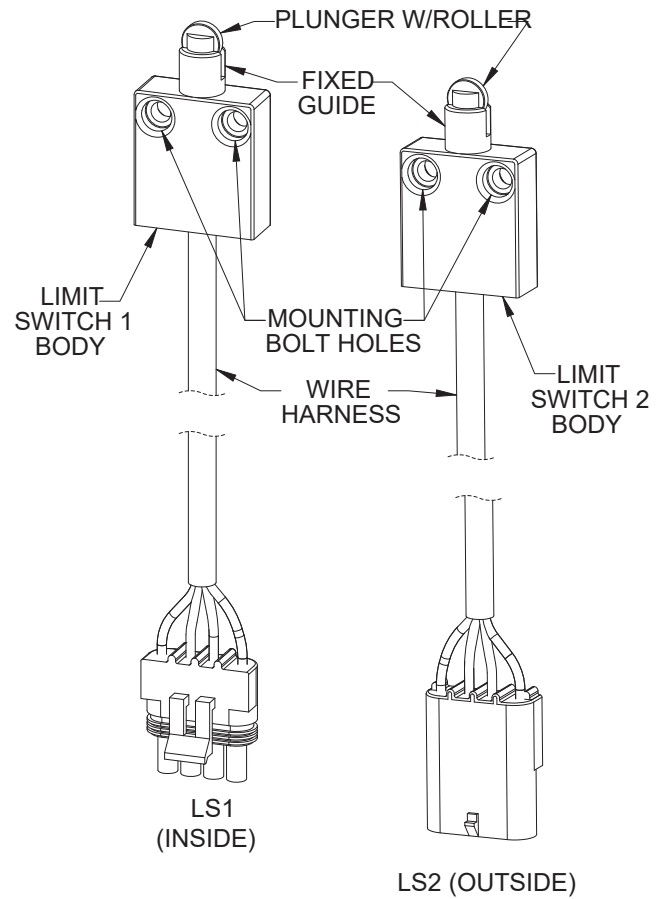

Figure 23
3. Remove LS1 and/or LS2 limit switch from carriage (see Figure 23).